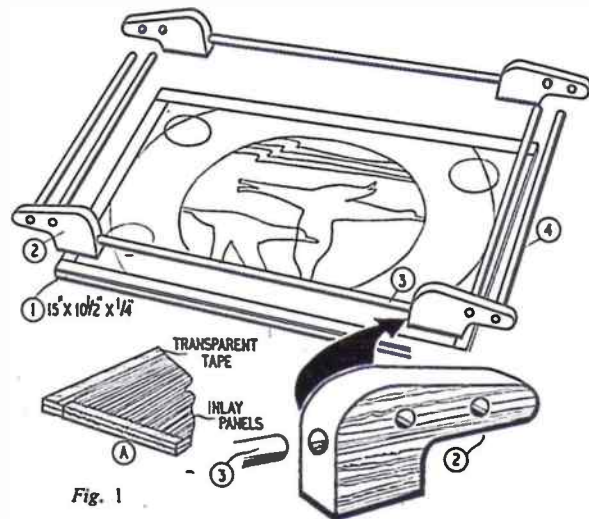

Fig. 1
securely together by Sellotape placed round the edges as shown in the inset (A) in Fig. 1. This will enable the two to be cut together to give identical sections.
scraper (a piece of glass will do), and glasspaper until a smooth surface is obtained all over. Then finish with wax polish working it in with the finger tips. Give several applications and rub down with very fine glasspaper after each. After the final application, polish with a soft duster. Now we turn to the handles, the makeup of which is shown in Fig. 1. The corner pieces (2) are shown actual size on the design sheet, and dowelling is cut to the measurements